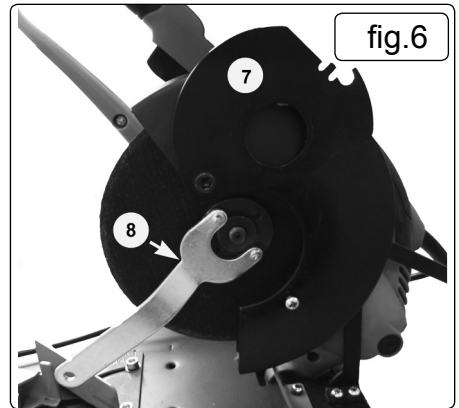

fig.6
6.2.4. Spin the static disc guard to its vertical position (fig.6/7). Use the clamping washer removal spanner (fig.6/8) to undo the washer and remove the cutting disc, whilst holding the drive spindle stationary.